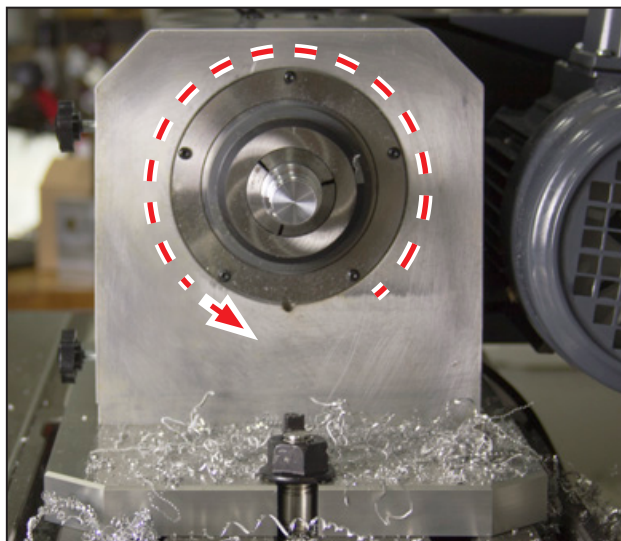
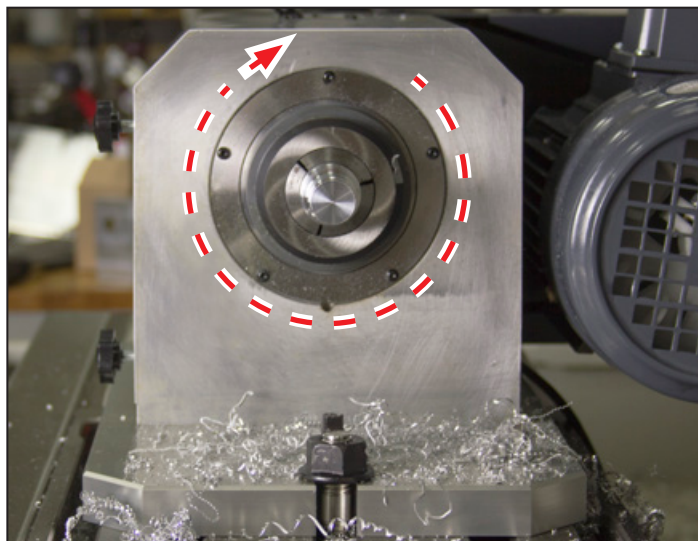

Figure 3.8
Figure 3.9
7. Observe spindle direction to confirm forward is correct (see **Figure 3.8**); repeat to confirm reverse is correct by clicking Spindle *REV* and observing spindle direction (see **Figure 3.9**). If not rotating as shown, refer to chapter 7, *Troubleshooting*, for more information.